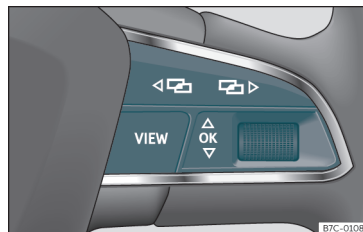

Fig. 61 Right side of the multifunction steering wheel: buttons to the menus and information displays on the instrument panel.
As long as a priority 1 >>> page 68 warning is active, it will not be possible to access any menu. Some warnings can be confirmed and hidden with the button  of the multifunction steering wheel >>> **Fig. 61**.
- If a message or vehicle symbol is displayed, press the button  >>> **Fig. 61**; if necessary, several times.
- To change menus, use buttons  or  >>> **Fig. 61**.
- To open the menu or the information displayed, press the button  >>> **Fig. 61** or wait
- In the menu displayed, turn the right thumbwheel of the multifunction steering wheel >>> **Fig. 61** until the desired option of the menu is highlighted. The option appears framed.
- Press the button **OK** >>> **Fig. 61** to make the required modifications. A mark indicates that the system or function is activated.
Press the button **←** or **→** >>> **Fig. 61**.